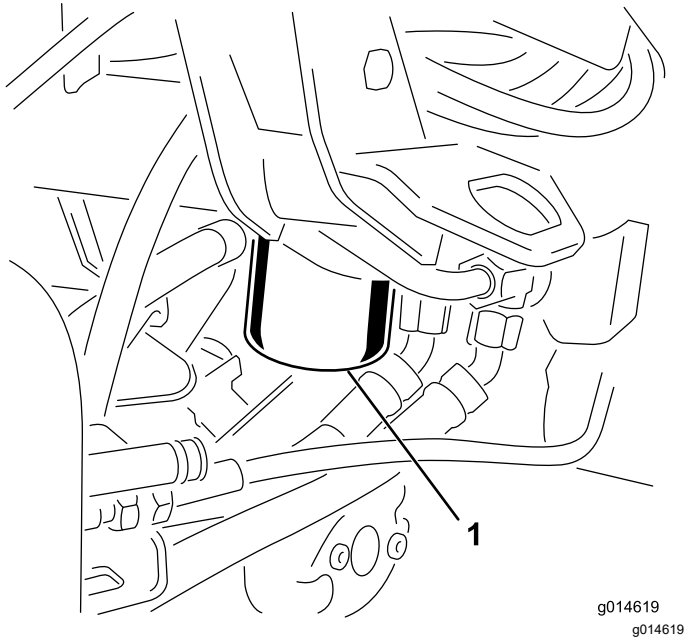

Figure 45
3. At the right side of the machine, align a drain pan under the hydraulic filter (Figure 45).
5. Remove the old hydraulic filter from the filter head and quickly install the new hydraulic filter (Figure 45) by turning it on by hand until the gasket contacts the filter head, then tighten the filter 3/4 turn further.